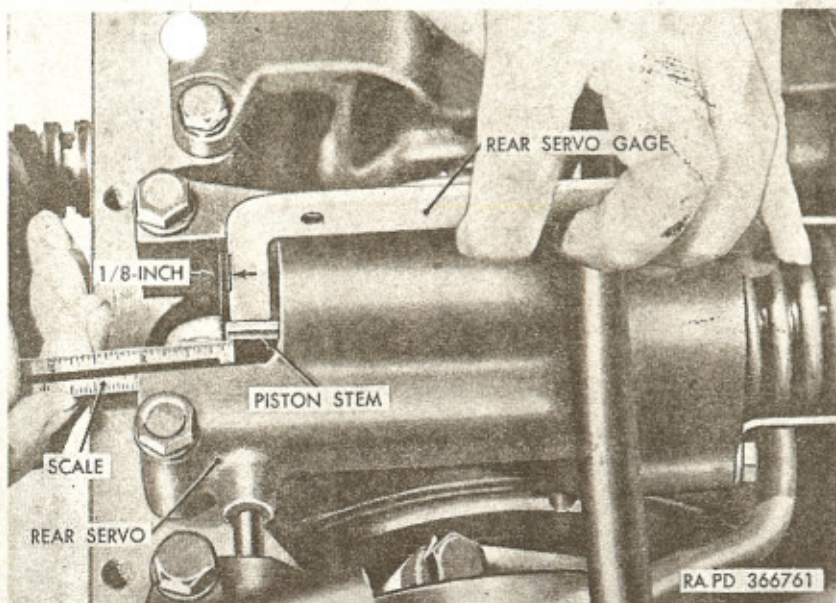
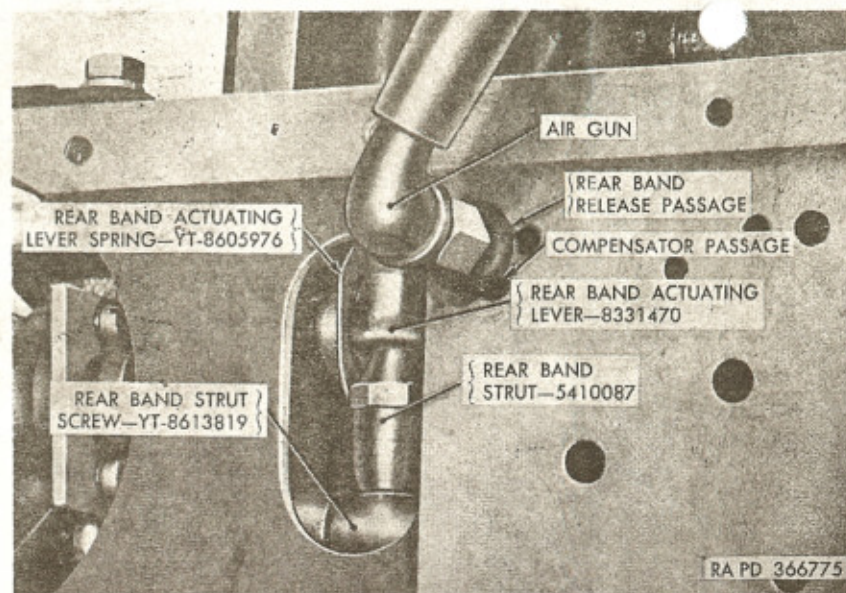

Figure 203. Checking rear band adjustment, using rear servo gage—B7950329.
Figure 204. Checking operation of rear band, using air gun—B7950562.
c. Position rear servo gage—B7950329 (fig. 203) on rear servo, with short leg of gage hooked over end of accumulator body and long leg of gage resting on servo piston stem.
e. With air gun—B7950562 (fig. 204) connected to a source of air pressure, apply air pressure to rear band release passage in side of transmission case. While applying air, look through opening in side of transmission case to see that rear servo actuating lever spring engages notches on rear band strut and turns strut; then apply air pressure to compensator passage (fig. 204) before again checking ratchet action of lever spring and strut. After the automatic adjuster checks satisfactorily, turn rear band adjusting stop screw in until actuating lever is one-eighth inch from face of rear servo gage (fig. 203).